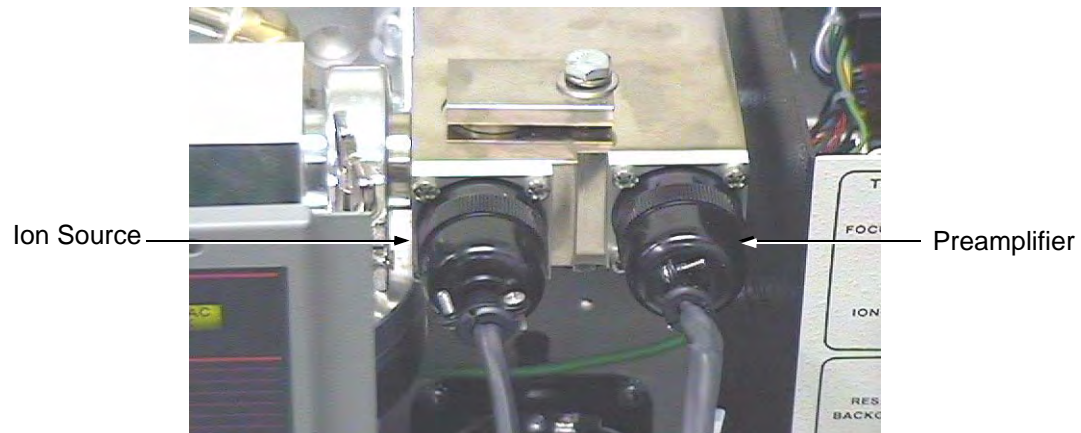

Figure 3-7 Ion Source and Preamplifier Connectors
3. Locate and remove the connectors from the preamplifier and the ion source (Figure 3-7) by grasping each plug and gently pulling straight off the contact pins.